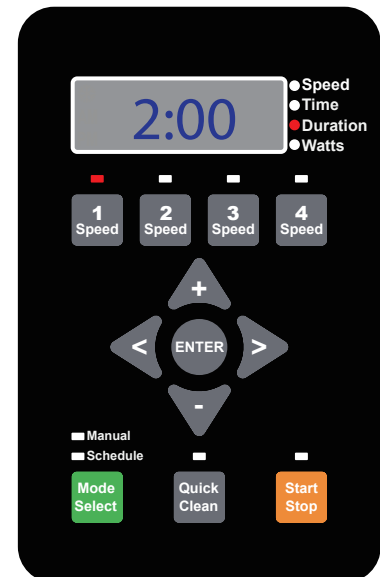

Figure 3 Setting Duration
6. Press the **"1"** button again and the display will change to SPEED 1 duration. The "Duration" parameter LED will begin to blink. See **Figure 3**.